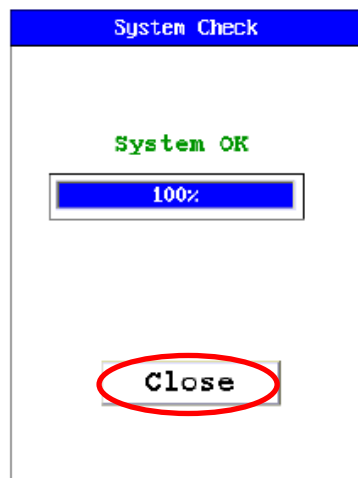

Figure 8: Completing the system check.
- 2) While performing the system check, your screen will show a progress bar indicating the progress of the calibration. When the system check is complete, "System OK" appears on the screen. Select *Close* to return to the main menu (Fig. 8).